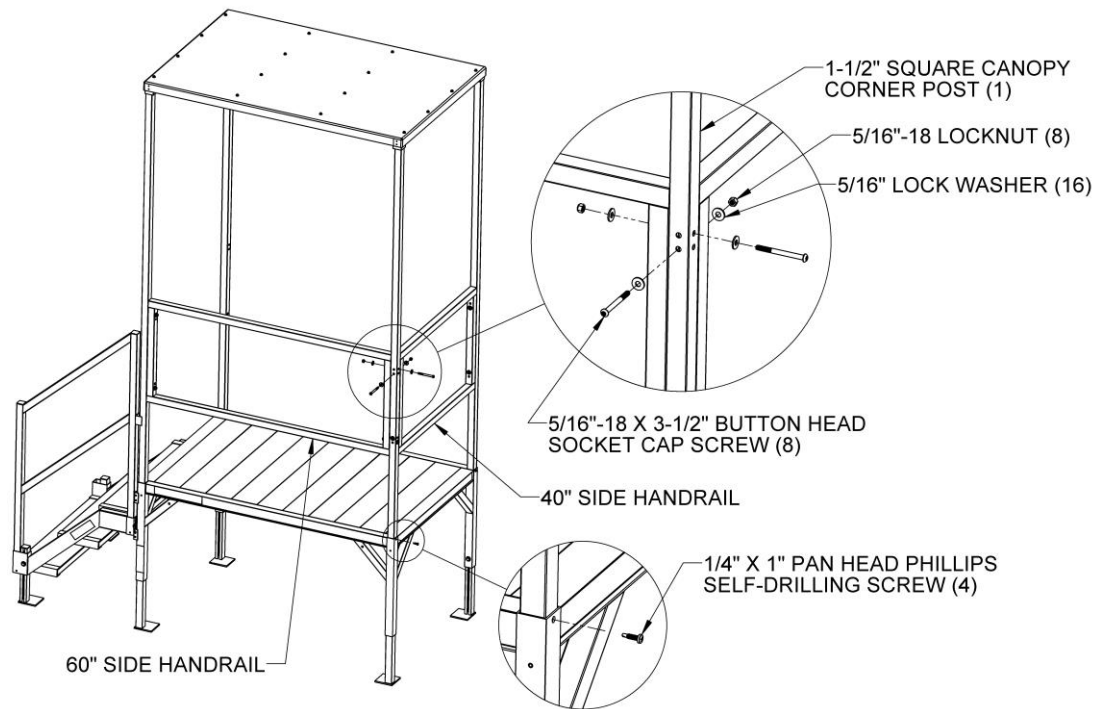

FIG. 2
- 3.4. Insert 5/16"-18 x 3-1/2" button head socket cap screws, 5/16" flat washers, and 5/16"-18 locknuts as shown (with the locknuts on the inside) to attach handrails to the canopy posts. Tighten all fasteners securely (FIG. 2).
- 3.5. Install 1/4" x 1" pan head Phillips self-tapping screws through the existing holes in the platform corner pockets into the 1 1/2" square canopy posts (FIG. 2). Pre-drill 1/8" pilot holes in the canopy posts if needed.